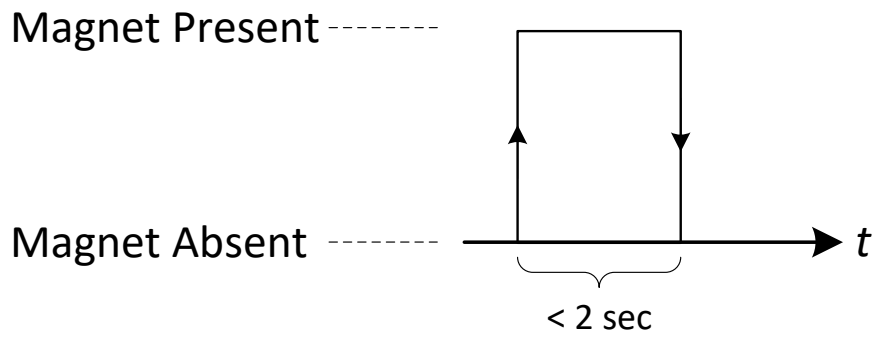

Figure 5: Agriculture Sensor magnetic UL-triggering pattern
The magnetic pattern involves holding and taking away the magnet to and from the magnet sign at the top of the enclosure once, all in less than 2 sec, as shown in Figure 5 below. It is important to note here that mistakenly holding the magnet attached to the module for more than 2 sec may trigger a module reset, as explained in item 1.